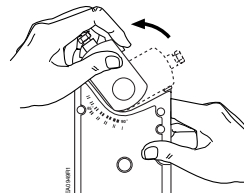

Figure 5.
- Hold down the **PUSH** button and rotate the shaft adapter to the left until it stops. See Figure 5.